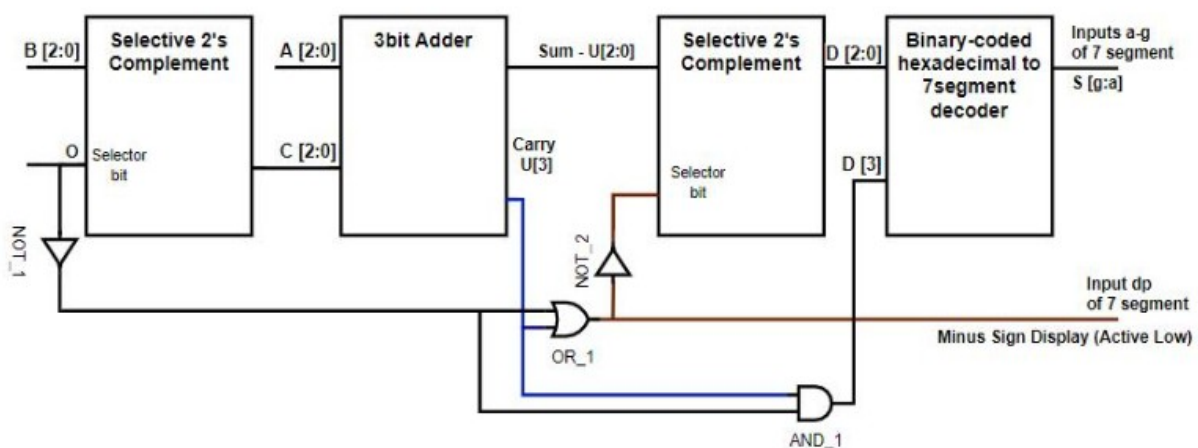

Figure 7.1: Add/Subtract Module
In Lab 06, 07 and 08, you're going to build a system that is capable of adding and subtracting two 3-bit binary numbers, A and B. The system accepts A, B, and an operator bit, O, which can either be 0 or 1, as input. If the bit O is 0 then the system adds A and B, and when O is 1 it subtracts B from A. In either case, the system generates the appropriate signals for seven-segment display to show the result of addition or subtraction as a hexadecimal digit on Basys-3 board. If the result is negative then the *dp* light of seven segment display is used to indicate that the displayed number is a negative number. The block diagram of the complete system is shown below in Figure 7.1. Before moving to the design, try to convince yourself that system given in Figure 7.1 works as per procedure for addition and subtraction of any 3-bit binary numbers.
- (i) Write a Verilog module `addSubtract` that combines all the blocks from Lab 6 and Lab 7 – Task a according to the block diagram in Figure 7.1: Add/Subtract Module. This module's inputs include two 3-bit binary numbers and an operation bit `O`, which is 0/1 for addition/subtraction respectively. The module's outputs are to be connected to the seven-segment display and include the seven control signals for all the segments (a-g) and one bit for the **dp** light of the seven-segment display.
Use Figure 7.1 and work out for cases when `B` is zero and subtracted from `A`. Reflect on the output obtained and suggest ways to fix (if required).